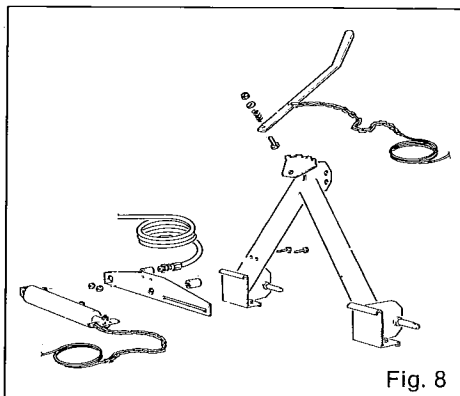
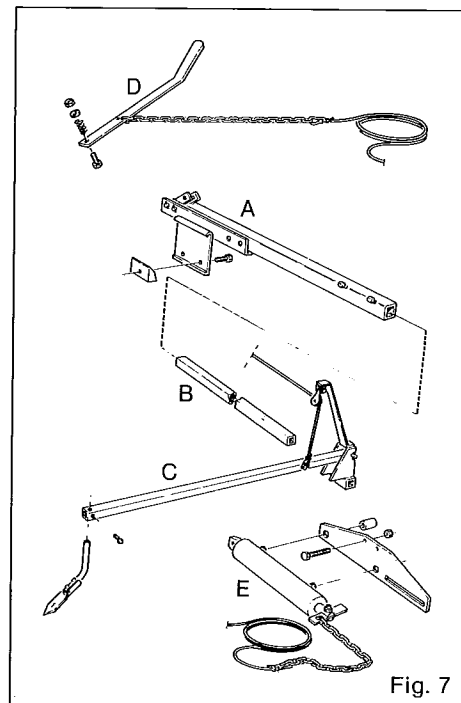

Fig. 8
Fig. 7
The markers can be manually (Fig 7) or hydraulically operated (Fig 8).
1. Mount the marker attachments (A) on the front of the main beam.
2. Mount the outer tube (B) and the outer attachment (C).
3. Mount the manual marker shifter arm (D) or hydraulic marker shifter (E) as shown in Fig 8.
4. Mount the wire as shown in Fig 7.